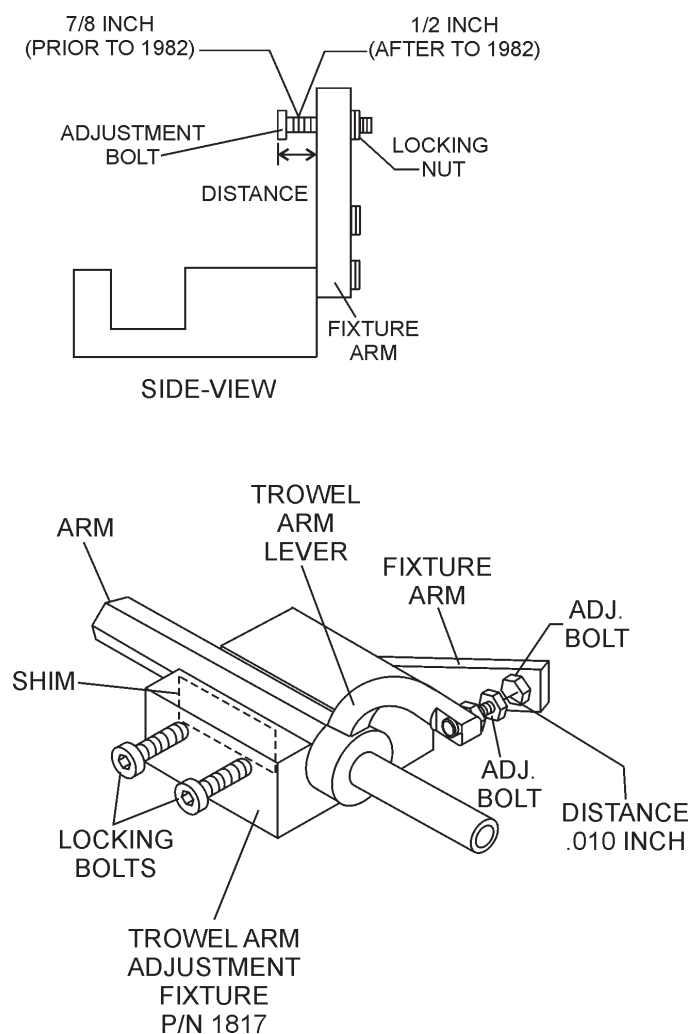

Figure 46. Trowel Arm Adjustment Tool
Shown in (Figure 46) is the adjustment fixture with a trowel arm inserted. As each trowel arm is locked into the fixture, the arm bolt is adjusted to where it contacts a stop on the fixture. This will consistently adjust all of the trowel arms, keeping the finisher as flat and evenly pitched as possible.
2. Trowels manufactured prior to June of 1982 require that the distance from the end of the adjusting bolt and the fixture arm must be 7/8" (Figure 46). Conversely, trowels manufactured after June of 1982 require that the distance from the end of the adjusting bolt and the fixture arm must be 1/2".
3. Un-screw the locking bolts on the adjustment tool, and place the trowel arm into the adjustment fixture channel as shown in (Figure 46). A **thin shim** may be required to cover the blade holes on the trowel arm. Make sure to align the trowel adjustment bolt with the fixture adjustment bolt.